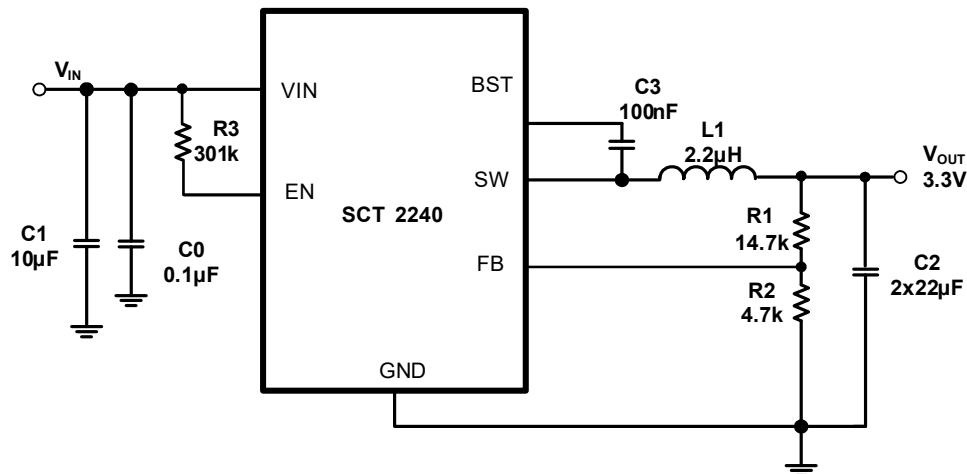

Figure 8. 12V Input, 3.3V/4A Output
The SCT2240 features external programmable output voltage by using a resistor divider network R1 and R2 as shown in the typical application circuit Figure 8. Use equation (8) to calculate the resistor divider values.